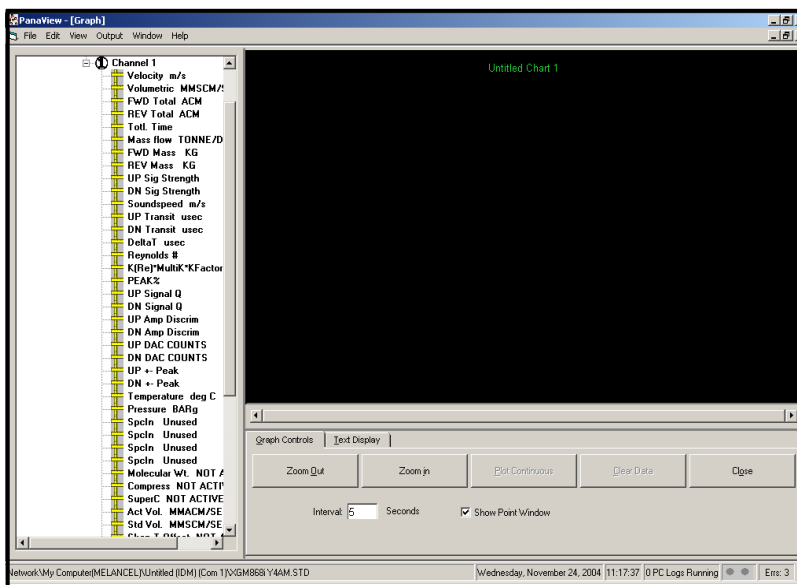

Figure 4: Graph Window
3. Using the *Window* menu, arrange the open windows in the desired format. For this discussion, Figure 4 below shows the Graph window in its maximized (full-screen) size.